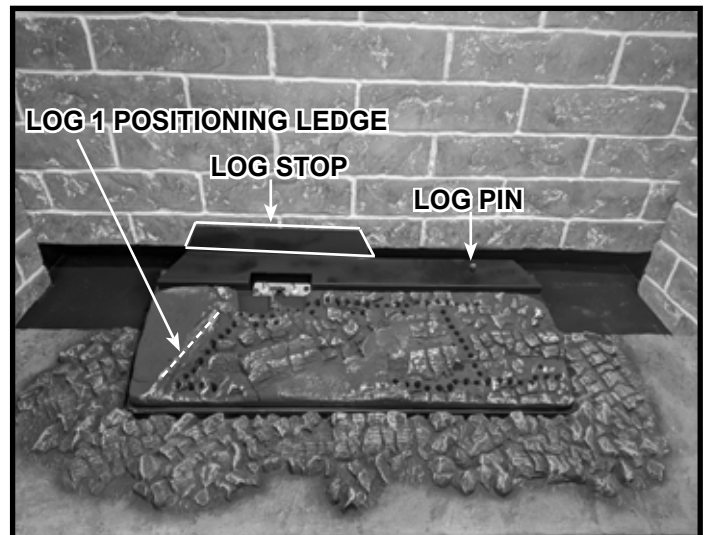
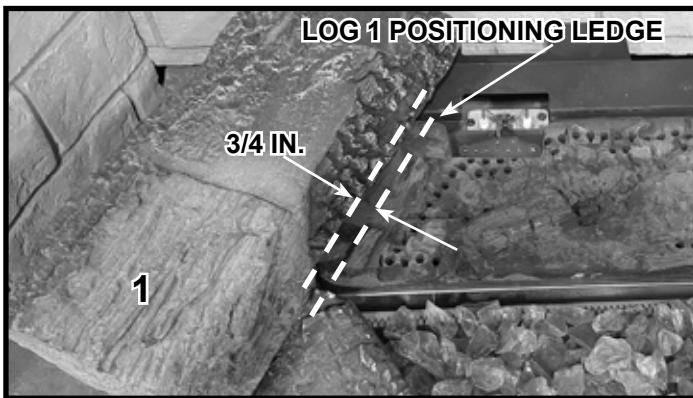

Figure 2 Log Location Features
Figure 3.C Log #1 Clearance to Log 1 Positioning Ledge (8KX-LP Appliance Models Only)
**NOTICE:** To simplify the installation process, positively identify each individual log before beginning installation. See Figure 1.A (LOGS-6K, LOGS-6KX) and Figure 1.B (LOGS-8K, LOGS-8KX), Figure 1.C (LOGS-6-BIR) and Figure 1.D (LOGS-8-BIR). The individual logs for both the traditional log set and the birch log set will place in a similar manner. The traditional logs are featured in the figures. Key log location features are shown in Figure 2.
**Log #1:** Position Log #1 along the log positioning ledge referenced in Figure 2. Slide Log #1 back until it contacts the log stop.
**Log #2:** Position the right end of Log #2 against the log pin as shown in Figure 4.A. Refer to Figure 2 for log pin location. Position the bottom side of the log on the log shelf and place it just behind the log shelf return bend. The back side of the log will touch the back refractory, if refractory is installed. Set the left end of the log on the flat area of Log #1 shown in Figure 3.A.